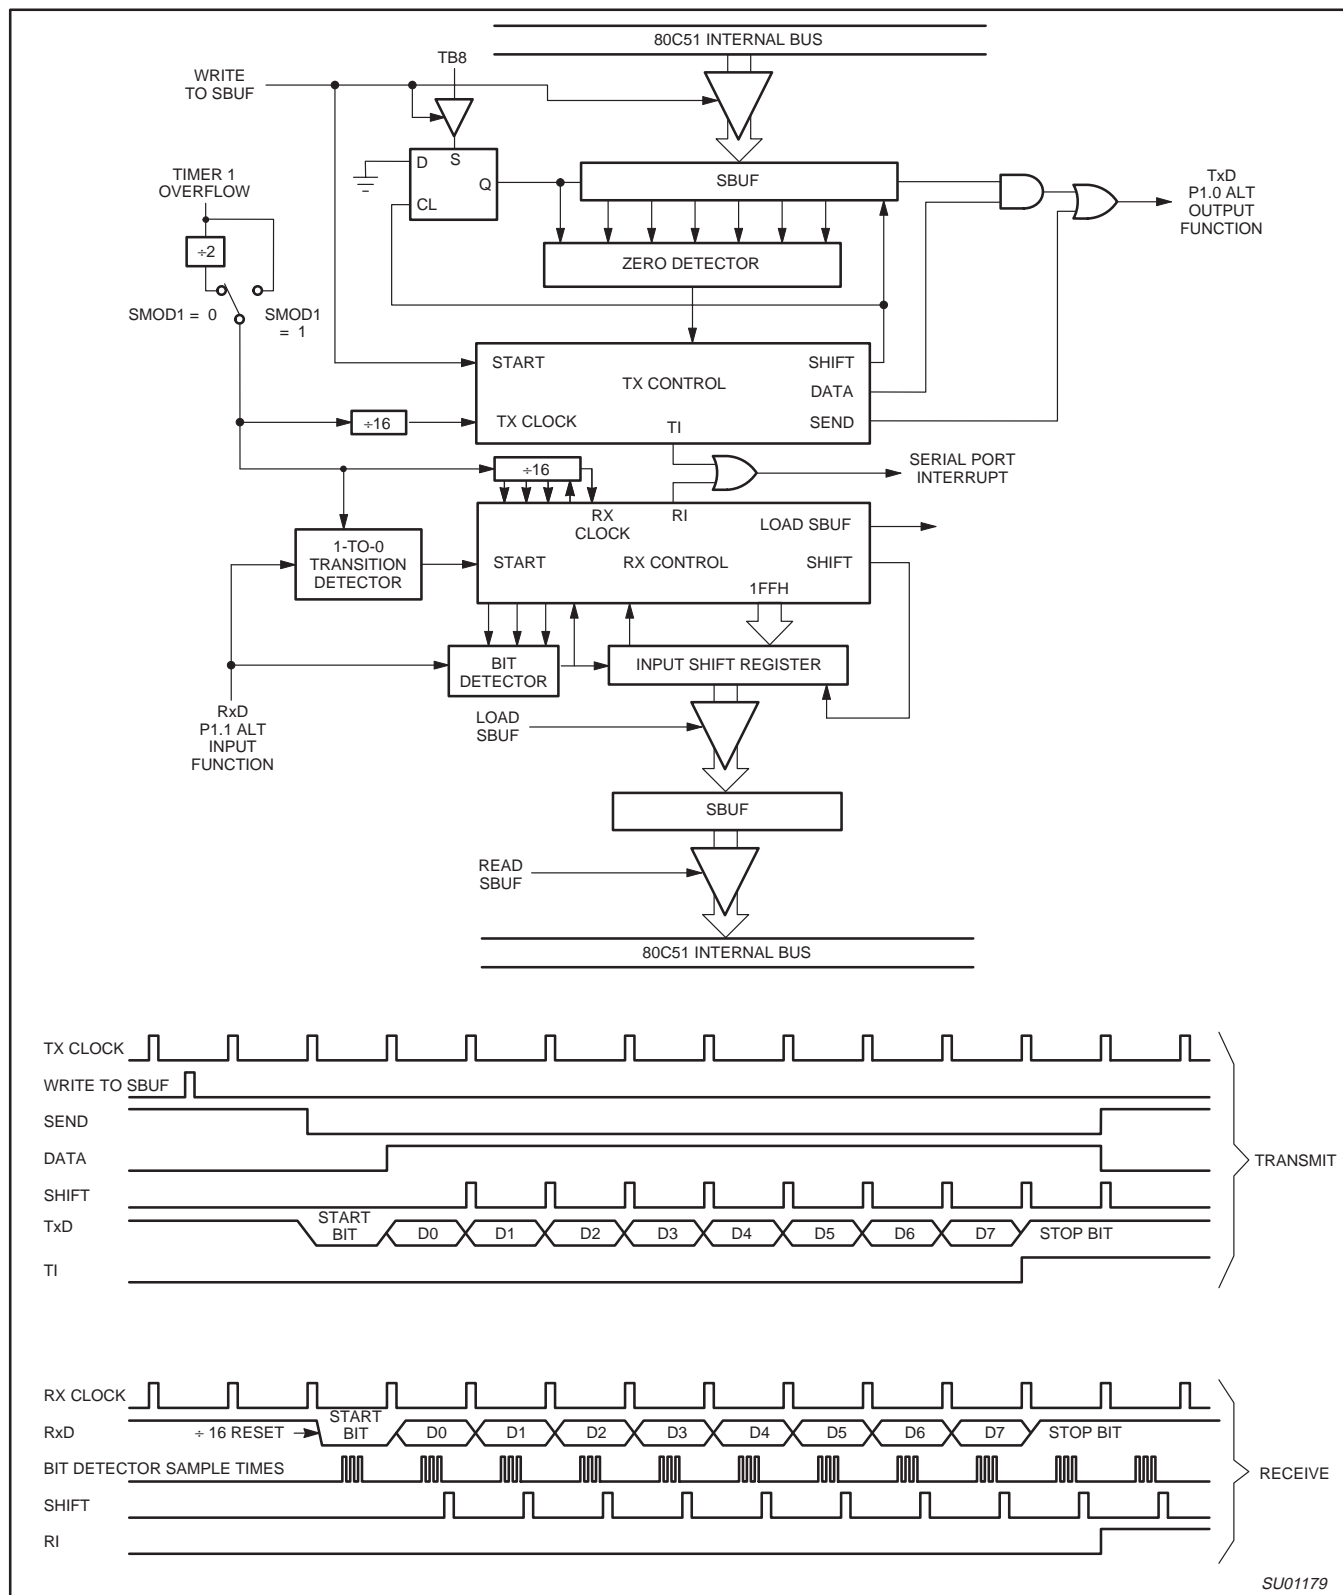

Figure 33. Serial Port Mode 1
Ten bits are transmitted (through TxD), or received (through RxD): a start bit (0), 8 data bits (LSB first), and a stop bit (1). On receive, the stop bit goes into RB8 in SCON. In the P87LPC760 the baud rate is determined by the Timer 1 overflow rate. Figure 33 shows a simplified functional diagram of the serial port in Mode 1, and associated timings for transmit receive.